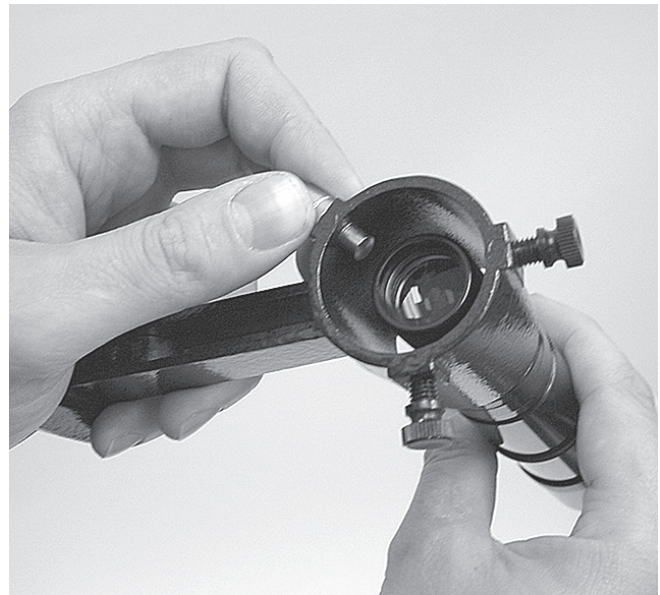

Figure 3b. Pull-back on the tensioner and slide the finder scope into its bracket until the O-ring is seated in the bracket ring
10. To place the finder scope in the finder scope bracket, first unthread the two black nylon screws until the screw ends are flush with the inside diameter of the bracket. Place the O-ring that comes on the base of the bracket over the body of the finder scope until it seats into the slot on the middle of the finder scope. Slide the eyepiece end (narrow end) of the finder scope into the end of the bracket's cylinder opposite the alignment screws while pulling the chrome, spring-loaded tensioner on the bracket with your fingers (Figure 3b). Push the finder scope through the bracket until the O-ring seats just inside the front opening of the bracket's cylinder. Now, release the tensioner and tighten the two black nylon screws a couple of turns each to secure the finder scope in place.